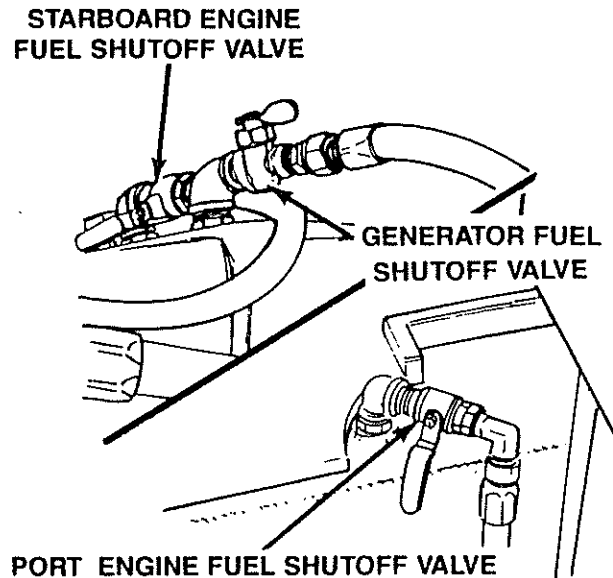

Figure 3-11 Fuel Shutoff Valve
15. See Figure 3-11. Open the fuel shutoff valves in the fuel lines for both engines and the generator. Valves are open when handles are in line with hose.
5. See Figure 3-11. Check that the fuel shutoff valves in the fuel lines at the fuel tanks are open. Valves are open when handles are in line with hoses.